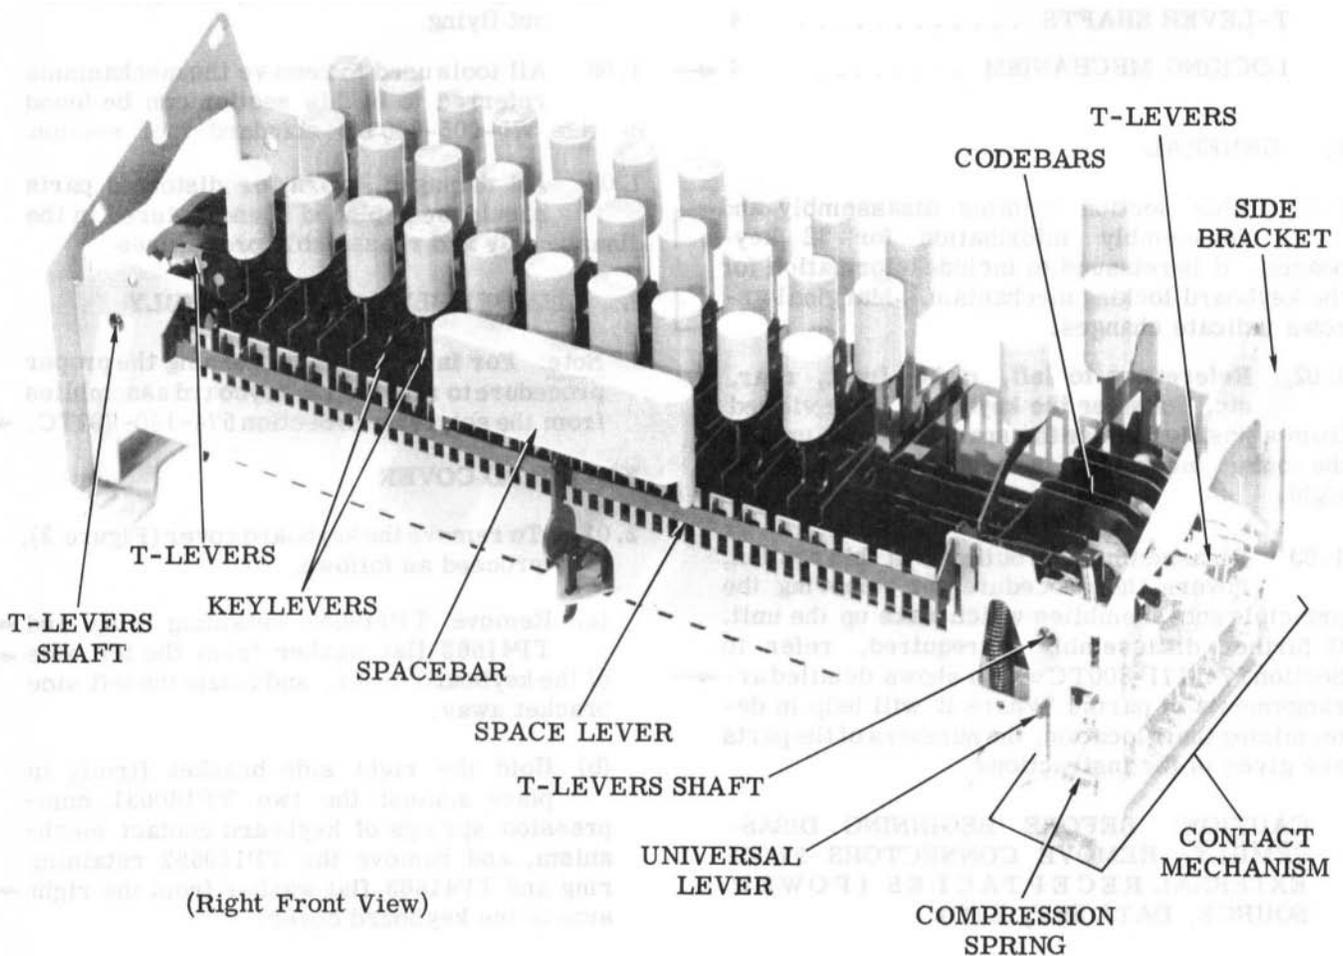

Figure 1 - Keyboard (Cover Removed)
2.02 To remove any keylever (Figure 1), proceed as follows.
2.03 To remove spacebar mechanism (Figure 1), proceed as follows.
2.04 To remove any codebar (Figure 1), proceed as follows.
2.05 To remove keyboard contact mechanism (Figure 1), proceed as follows.
2.06 To remove the T-lever shafts (Figure 1), proceed as follows.